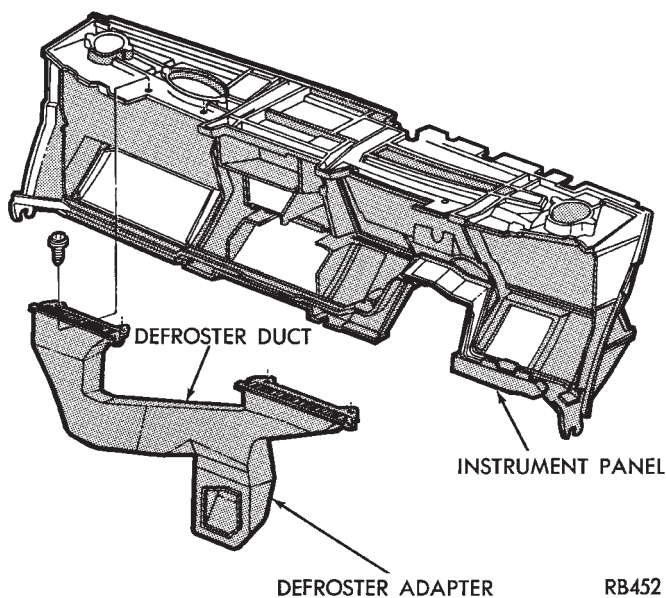

Fig. 7 Removing or Installing Defroster Duct—Typical
- (1) Remove the air distribution duct.
- (2) Remove the defroster duct adapter.
- (3) Remove the instrument panel top cover. Refer to Group 8E, Instrument Panel.
- (4) Locate and remove defroster duct attaching screws at the ends of each outlet (Fig. 7).
- (5) Allow the defroster duct to drop downward and remove it from the vehicle.